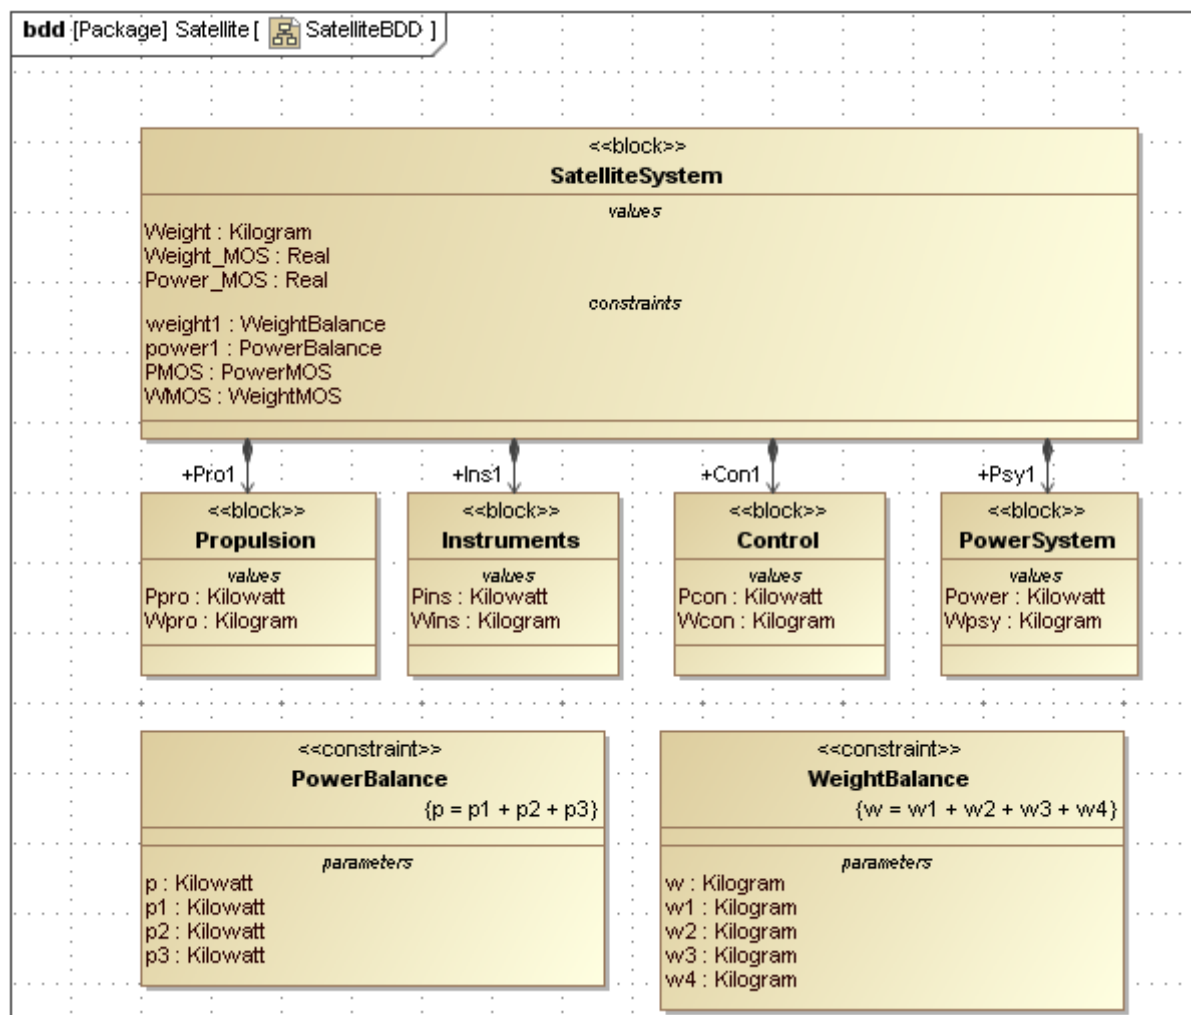

Figure 3.3 SysML Block Definition Diagram with Constraints
- f. Drag both new constraint blocks into the SatelliteBDD block definition diagram, which will appear similar to Figure 3.3.